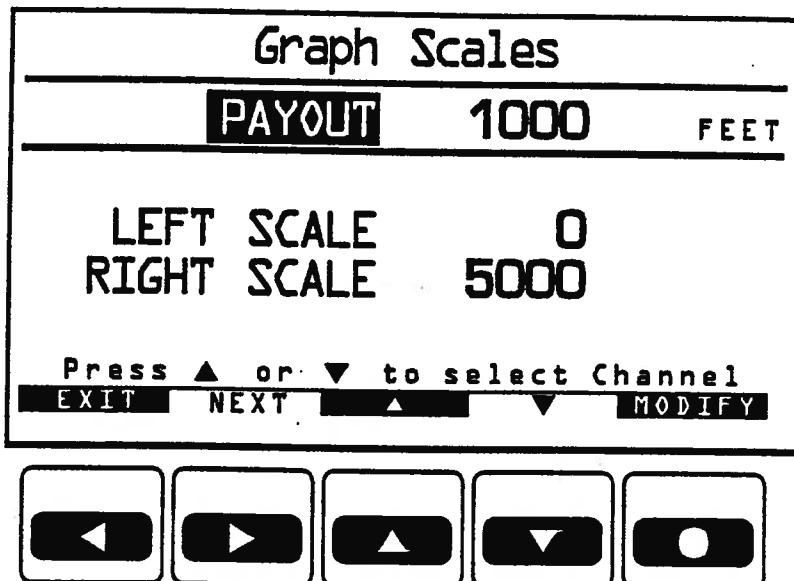

Figure 4-8. Graph Scales Screen
1. Choose **Graph Scales** on the Main Menu to bring up the Graph Scales Screen (Figure 4-8).